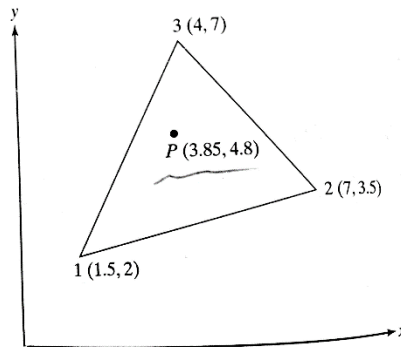

Figure 6
6. Evaluate the shape functions  $N_1$ ,  $N_2$  and  $N_3$  at the interior point  $P$  for the triangular element shown in figure 6. [15]